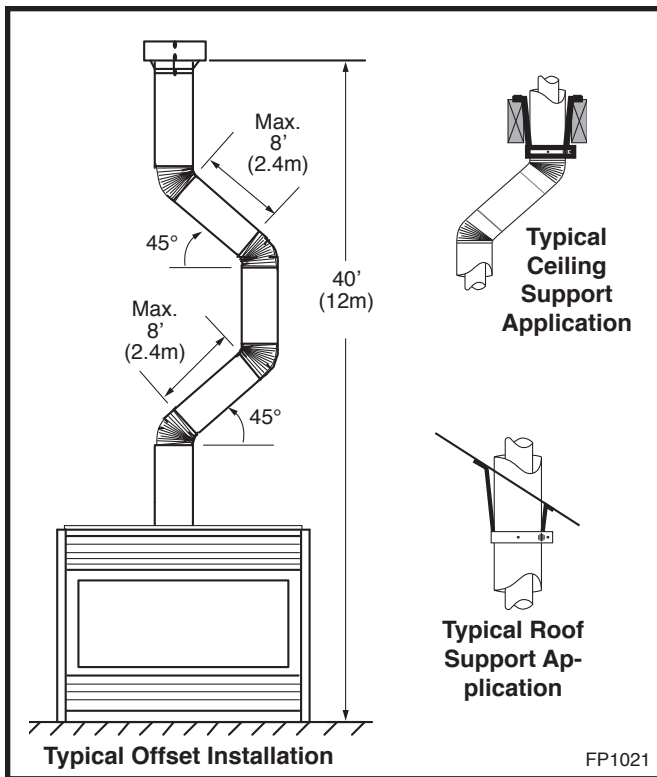

Fig. 34 Typical vertical roof applications.
4. Two sets of 45° elbows offsets within these vertical installations. From 0 to a maximum of 8' (2.4 m) of vent pipe can be used between elbows. (Fig. 34)
5. 7DVCS must be used to support offsets. (Fig. 34) This application will require that you first determine the roof pitch and use the appropriate 7DVSKV (A, B or F). (Refer to Venting Components List, Page 21)